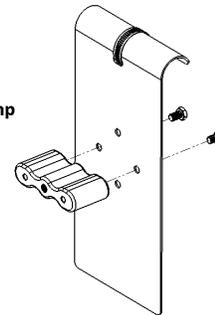

Figure 35
Step 2 – Attach Upright Base to the RZR Mounting Plate using the hardware included (see **Figures 35 and 36**).